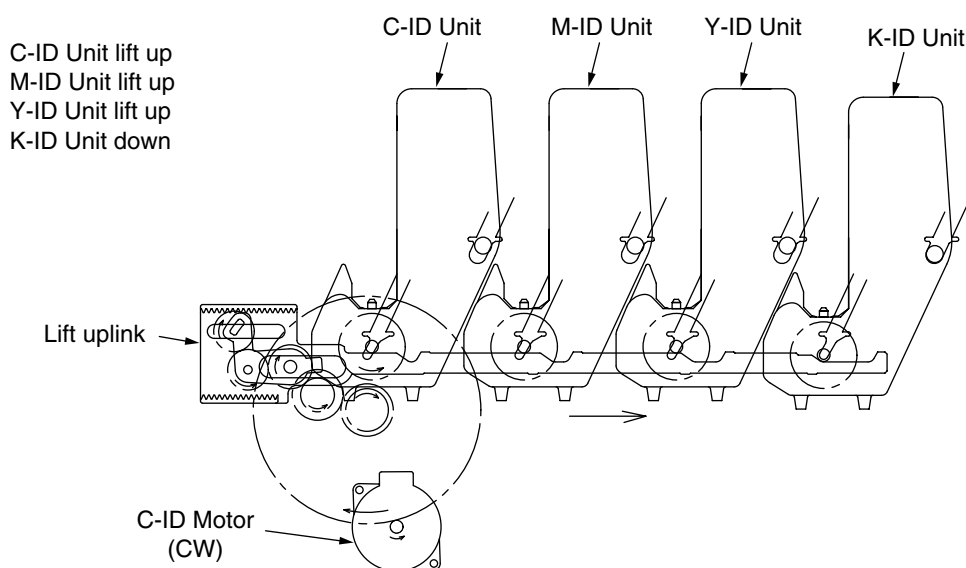

Figure 2-7
3. Figure 2-7 indicates the ID unit operations during monochrome printing. When the C-ID motor rotates (CW), the lift uplink slides to the right, and as indicated in Figure 2-7, all units other than the K-ID moves UP. The printer is now ready for black-and-white printing.